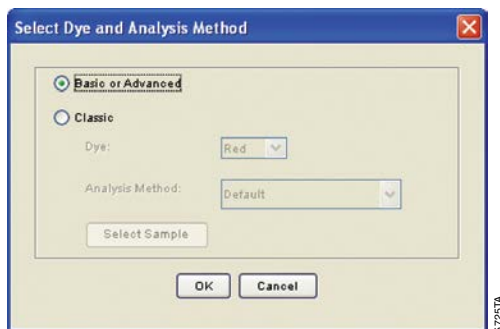

Figure 18. The Select Dye and Analysis Method window.
4. Select “Basic or Advanced” (Figure 18). The type of analysis method selected must match the type of analysis method created earlier. Select “OK”.